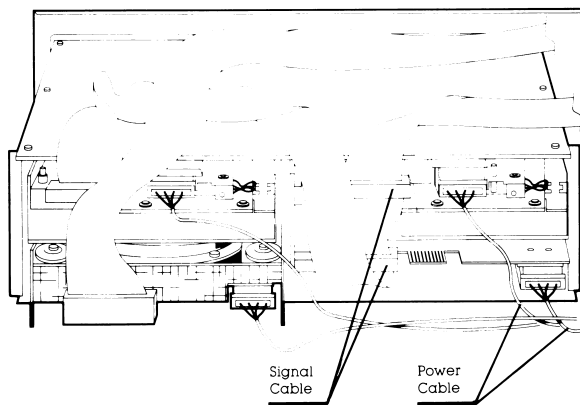

Figure 7-42. Disconnecting Cables from Mass Storage Device A or D.
3. Disconnect the signal cable and the power cable from the back of device A or D (Figure 7-42).